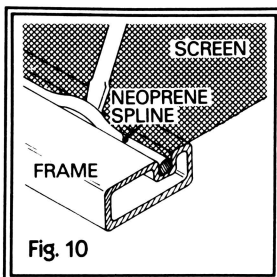

Fig. 10
1. First, use the procedures described (in steps 1 and 2) for wood frames. The screen usually will be held in place by a strip of neoprene (a type of synthetic rubber) forced into a groove of the frame (fig. 10). Using the screwdriver, carefully remove the neoprene strip, or spline, and remove the old screen.